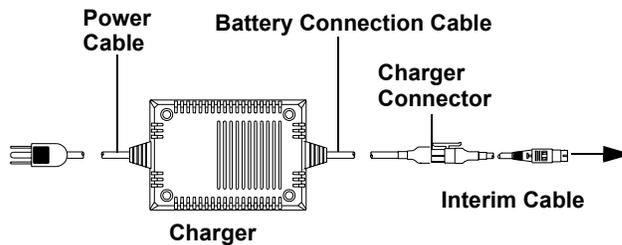

Figure 1-4. Charger/Interim Cable/Instrument Connection
2. Disconnect the Interim Cable from the Charger at the Charger Connector. See Figure 1-4.